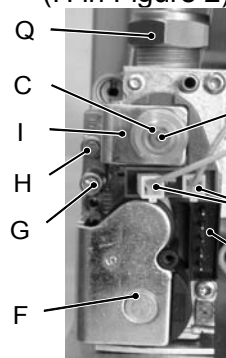

Figure 2
- 2) Open the gas valve inlet pressure test point (G in Figure 2) at the valve input, connect a suitable pressure gauge and check the gas pressure of the supply network.
- 4) Open the gas valve outlet pressure test point (H in Figure 2) and connect the gauge.
- 7) Rotate the maximum gas pressure adjustment (C in Figure 2) until you obtain the required pressure (by rotating clockwise the pressure increases).
- 8) Turn the boiler off and disconnect one of the two connectors (D in Figure 2).
- 9) Start the boiler and rotate the minimum gas pressure adjustment (B in Figure 2) until you obtain the required pressure (by rotating clockwise the pressure increases).
- 2) Disconnect the connectors D (Figure 2) from the modulating operator and measure the electrical resistance of the coil. Its electrical resistance value must be approx.  $114 \Omega^*$ .